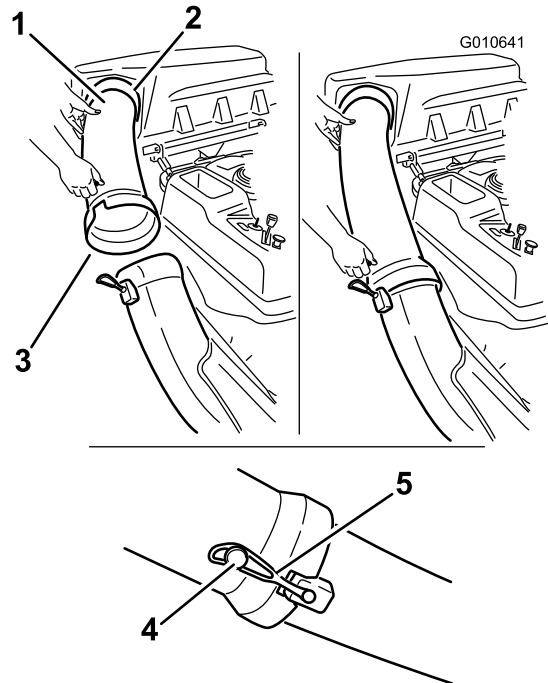

Figure 24
1. Slide the curved end of the discharge tube into the opening in the bagger top (Figure 24).
2. Slide the flared end of the discharge tube over the end of the chute. Move the rubber retaining strap on the chute snaps over the peg on the discharge tube to secure it (Figure 24).